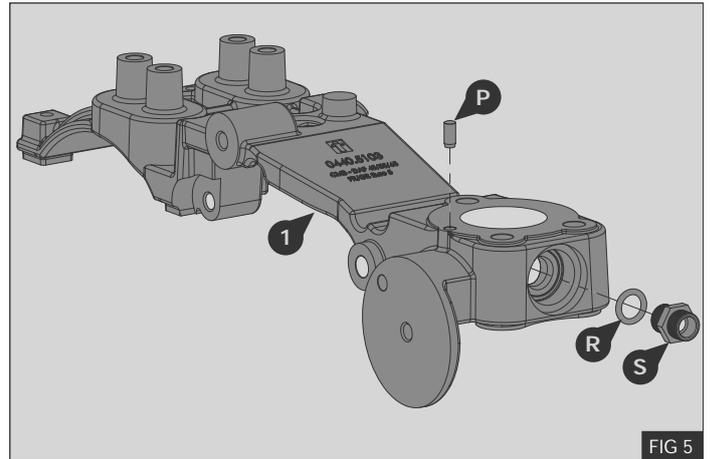

FIG 5
17. Remove the pin (P) from the original bracket (I) and fit to the supplied bracket (1) - Fig.5
18. Remove the fitting (S) and O-ring (R) from the original bracket and fit to the supplied bracket (1) - Fig.5